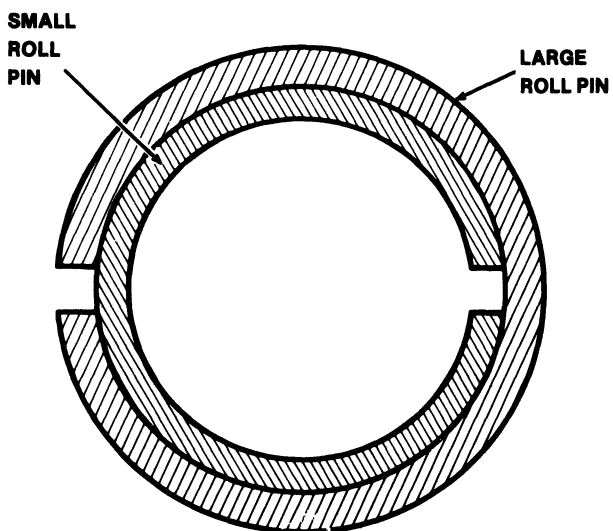

Figure 14. Roll Pins Installed
12. From the rear of the knuckle, drive the three smaller roll pins into the three larger roll pins as shown in Figure 14. Lock them by a welding point.